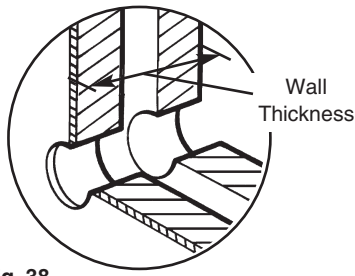

Fig. 38
2. Measure the thickness of the wall from the inside. This will be known as **Wall Thickness** (Fig 38).